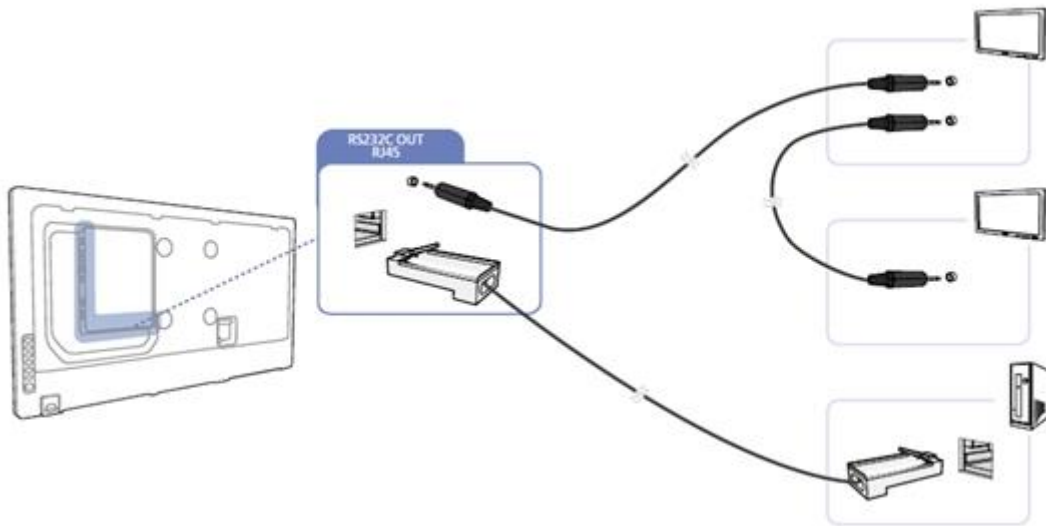

Figure1-3 PC,TV or Monitor connecting method(with RJ45 & RS232C)
- As of Figure 1-3, connect TV and Personal Computer(using Ethernet), connect the next TV of Display to be connected from RS232-Out (9Pin).